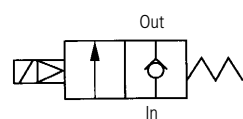

Fig 1
N.C Normally closed type (Fig 1)